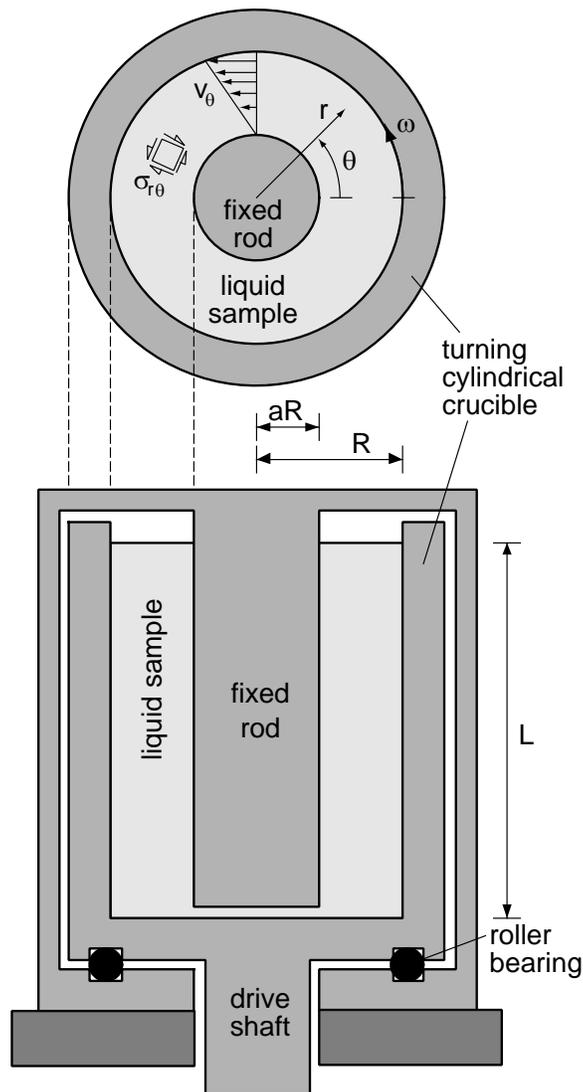

Figure 2. Couette viscometer used to determine the apparent viscosity of liquids.
2) Most viscometers (Figure 2) do not provide a direct measurement of the shear stress or the rate of deformation because these quantities vary throughout the flow in a rather complex way. The quantities that are measured must be related to what is needed for the calculation of viscosity by solving the appropriate boundary-value problem. Because these solutions depend upon assumptions about the flow behavior, the corresponding laboratory tests only provide *apparent viscosities*.